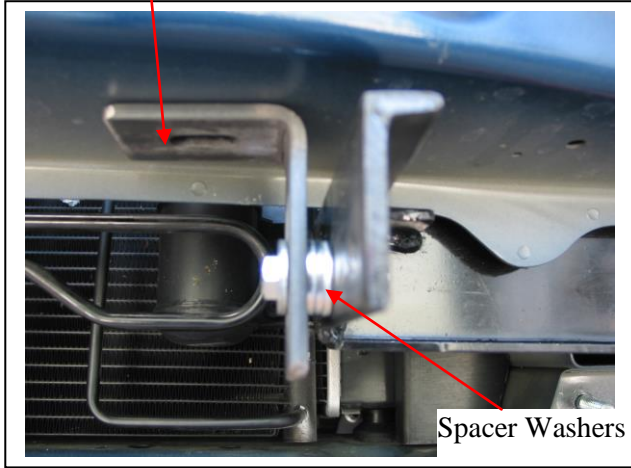
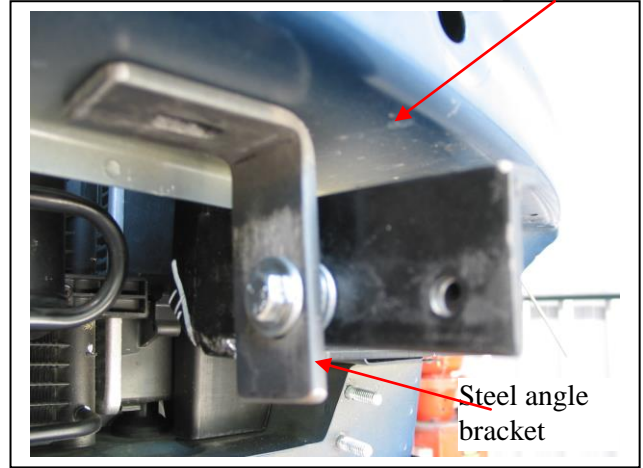
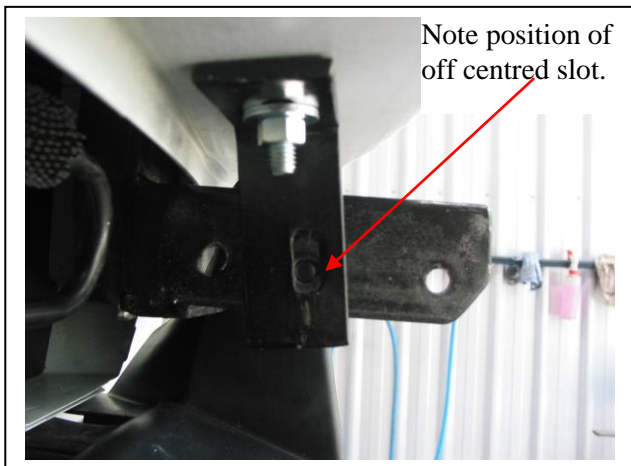

Figure 7 - Passenger side shown
Figure 8 - Passenger side shown
Figure 9 – Passenger side shown
9. Attach steel angle brackets to captive nuts on steel mounting brackets using three 10mm flat washers (each side) (supplied) to space steel angle bracket 9mm from steel mounting bracket Use 3/8 x 1 ½ bolt (supplied). **See Figure 7.** Push hard up against bumper cover support and **TIGHTEN. See figure 8. Note position of off centre slot hole. See figure 9.**